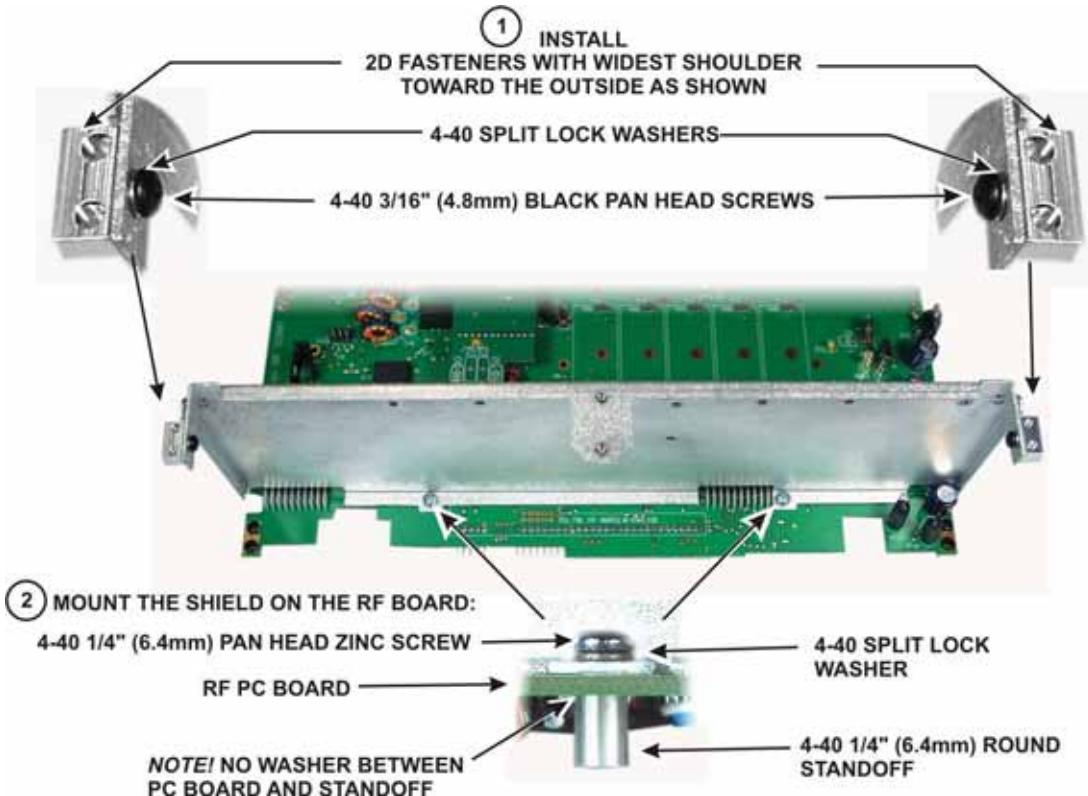

Figure 13. Installing Front Panel Shield.
- Mount a 2D fastener on each ear of the front panel shield, then mount the shield on the RF board as shown in Figure 13. Be sure the 2D fasteners are oriented with the widest part between the two holes and the edge toward the outside as shown.